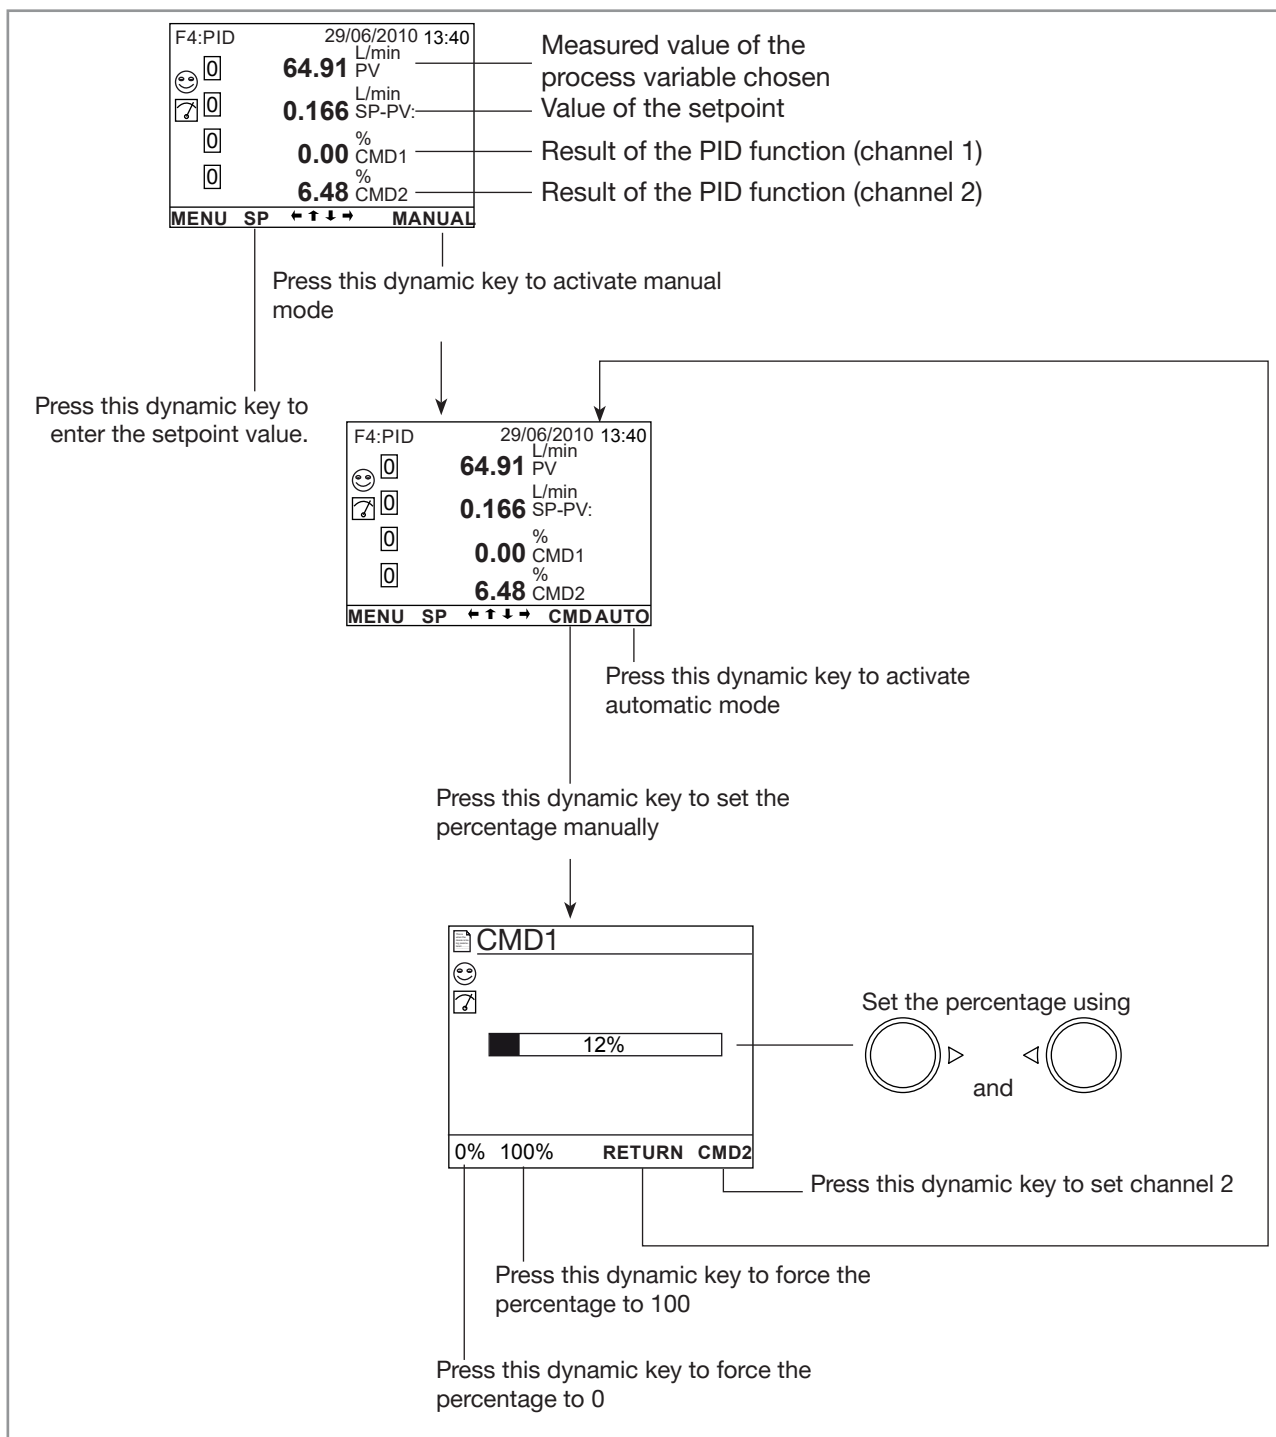

Fig. 72: Example of a view, in Process level, of the PID function, and switching to manual or automatic mode
- ON: the mode and the setpoint value cannot be modified in the Process level without entering an access code. Refer to Fig. 72. To switch the mode between the manual mode and the automatic mode or to change the value of the setpoint, first enter the access code of the "Parameters" menu. The default access code is "0000" (see section 9.4).